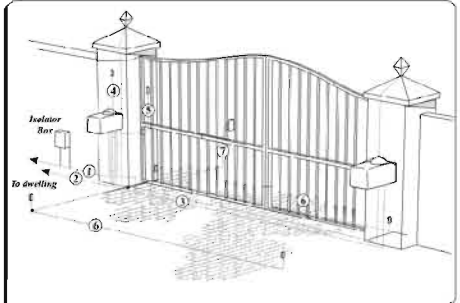

Figure 9 Cabling Requirements
Consider all cabling requirements and routing as in Figure 9. (IM page 14)
- Route cables as determined in the cabling plan in Figure 9.